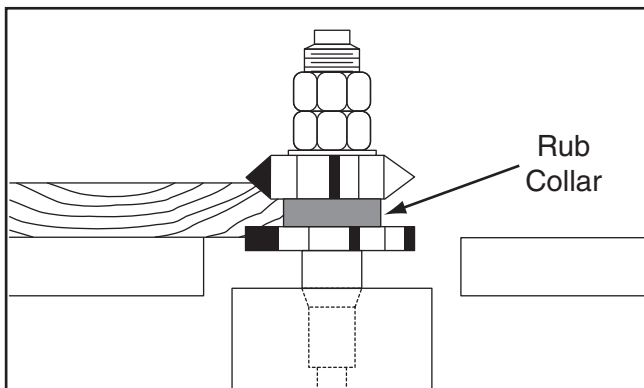

Figure 48. Using rub collar between cutters.
3. **Between two cutters:** Using a rub collar between two cutters has the distinct advantage of performing two cuts at once or eliminating the need to change cutters for two different operations (see **Figure 48**). Notice that part of the edge is left uncut. The uncut portion rides on the rub collar.